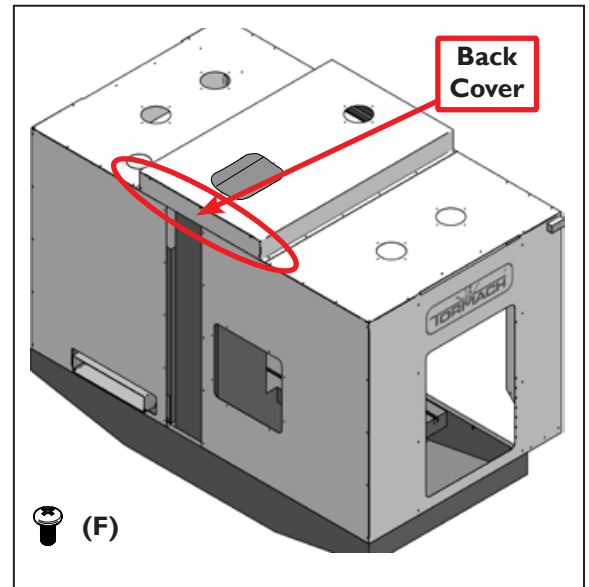

Figure I3
- 34.** Place the center Back Cover (E.36) onto the back of the enclosure assembly (see **Figure I3**). Loosely fasten with (F) screws along the side and top edges of the front panel.